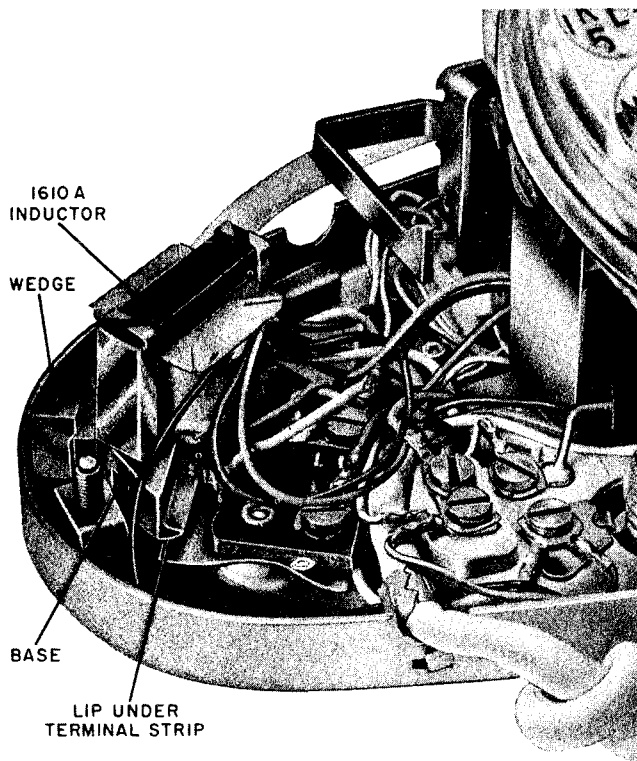

Fig. 8 — Location of 1610A Inductor
- (1) Remove housing from telephone set.
- (2) Loosen dial and mounting cord stay hook, lay aside.
- (3) Install inductor as shown in Fig. 8 and 9.